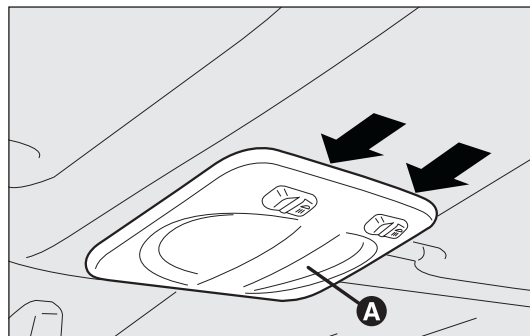
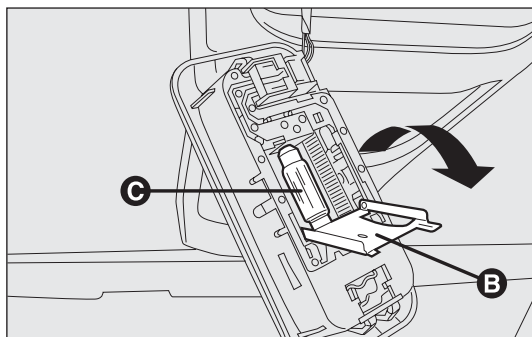

fig. 180
fig. 181
- ☐ manipulate the points shown by the arrows and remove light A-fig. 180;
- ☐ open the protective flap B-fig. 181;
- ☐ replace bulbs C-fig. 181 by releasing them from the side contacts and making sure that new bulbs are correctly clamped between these contacts;
- ☐ close the flap B-fig. 181 and fasten the courtesy light A-fig. 180 in its housing, making sure it is locked in correctly.